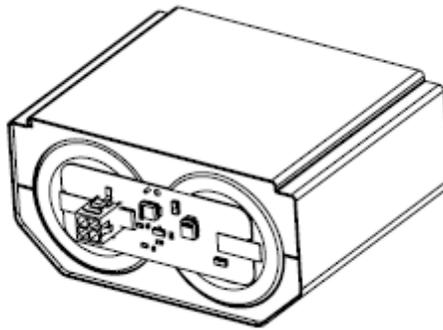

Figure 4 Battery Pack Assembly
- 4) The battery pack for the Artex ELT 345 consists of two "D" size Lithium Manganese Dioxide cells (see Figure 4).